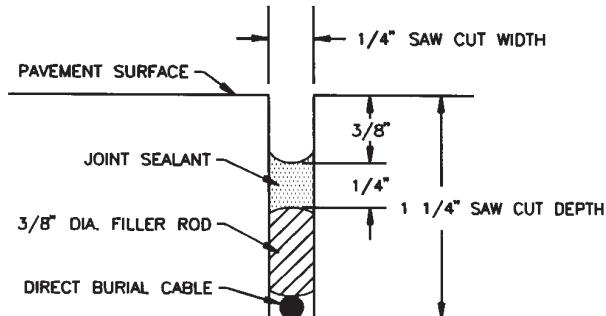

Figure 3. Sectional View of Direct Burial Saw Cut
1. The saw cut depth is determined by the number of cables to be run in the trench [Figure 3]. The depth for one Direct Burial Cable is 1 1/4 inches. For each additional cable, 1/4 inch should be added to the saw cut depth.
1. Uncoil the filler rod over the trenches. Install the rod to proper depth [Figure 3 on page 10]. The depth, 5/8 inch, is measured from the paved surface to the top of the filler rod. Placing the rod too deep will result in the need for excessive sealant.
Failure to install sealant to a minimum depth of 1/4 inch below grade will result in sealant failure [Figure 3 on page 10].